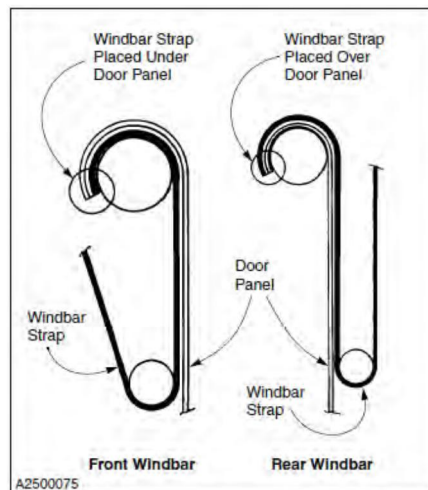

Figure 2
- 6.) Route one windbar strap between the drum and panel, and bring it under the panel mounting strap. (See Figure 2)
- 2.) Route the strap over the top of the panel and under the mounting strap. (See Figure 2)